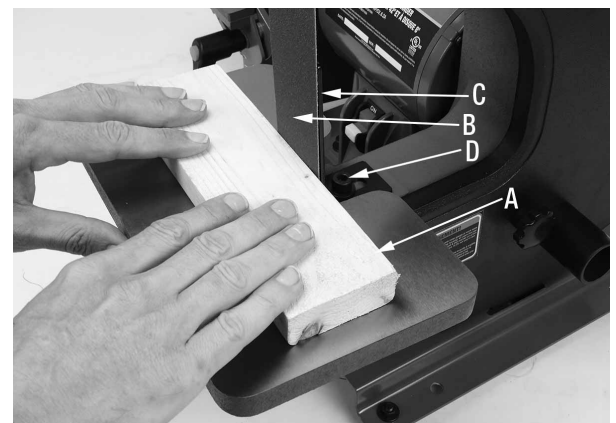

Figure 20
Do not force the workpiece (A) Fig.20 into the sanding belt (B). Sand using light pressure. Move your workpiece slightly left and right on the belt. This will help prevent resin or debris from building up on one area of the belt, and also helps to prevent burning of the sanded surface from excessive abrasive-action heat build-up.
The platen (C) Fig.20 supports the back of the sanding belt and offers a flat surface to sand or sharpen against. It should be positioned so it is almost touching the back of the sanding belt. To adjust the platen, loosen the cap screw (D) at the rear of the platen. The platen can also be removed for contour sanding or polishing.